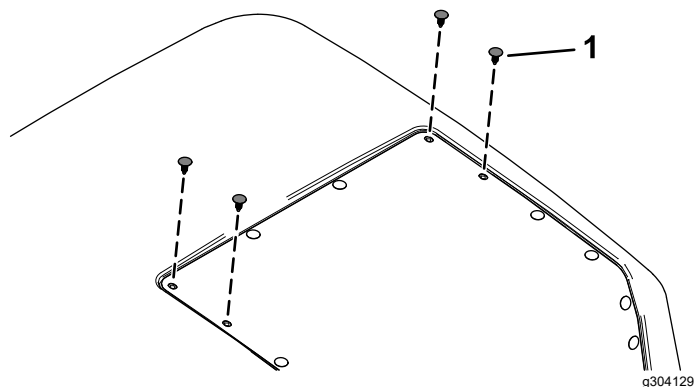

Figure 23
9. Remove the 4 plastic plugs shown in Figure 23 from the hood.